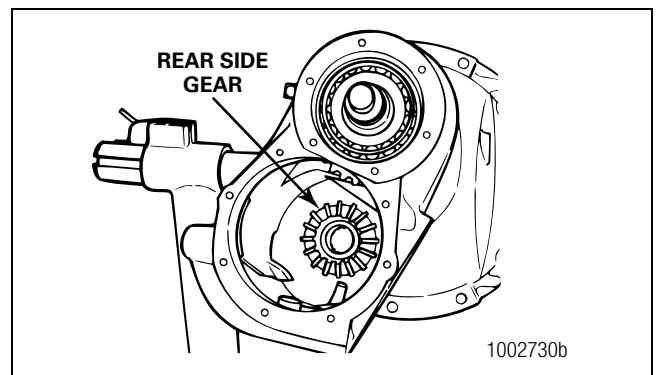

Figure 3.26
10. Remove the rear side gear and the bearing cone from the carrier. Remove the collar. Figure 3.26.